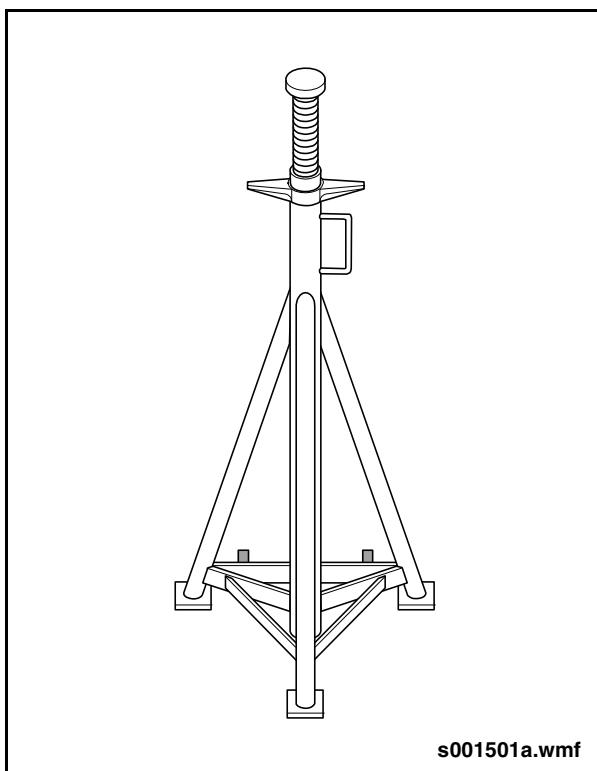

Fig. GI-19: Jack Stand
9. Position a jack stand squarely under each reinforced jacking point on the frame. Each jack stand must have a minimum weight bearing capacity of 12,000 lbs. (5,443 kg). See "Fig. GI-19: Jack Stand" on page 42.